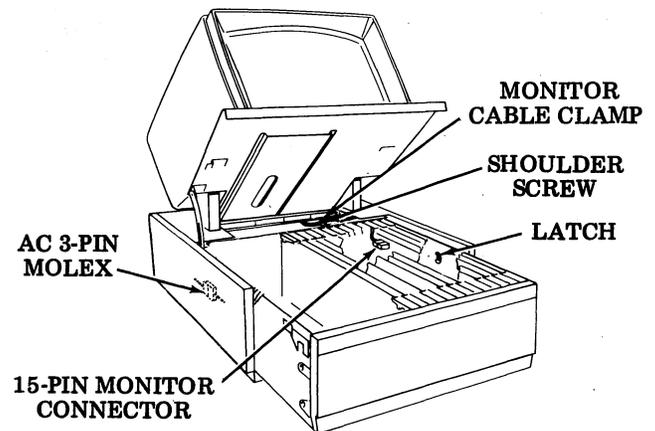

Fig. 17—Electronics Package Removal
4.30 Unplug the ac cable from the electronics package by pulling out the 3-pin Molex connector located on the back of the electronics package at the left-hand side of the fan assembly (Fig. 17).
4.31 Loosen the shoulder screw located on the top of the fan assembly near the right side. With the shoulder screw loose, slide the cable clamp to the rear, removing it from under the shoulder screw. Remove the cable from the slot in the top right side of the fan bracket and also from the slot in the connector bracket located at the back right-hand side of the electronics package. Unplug the 15-pin Molex from the same connector bracket that the cable was in (Fig. 17).
4.32 Unlatch the electronics package from its stop by using a screwdriver to raise the latch up over the projection attached to the right side of the electronics package. When the electronics package is released from its stop it is free to be pulled out and removed (Fig. 17).